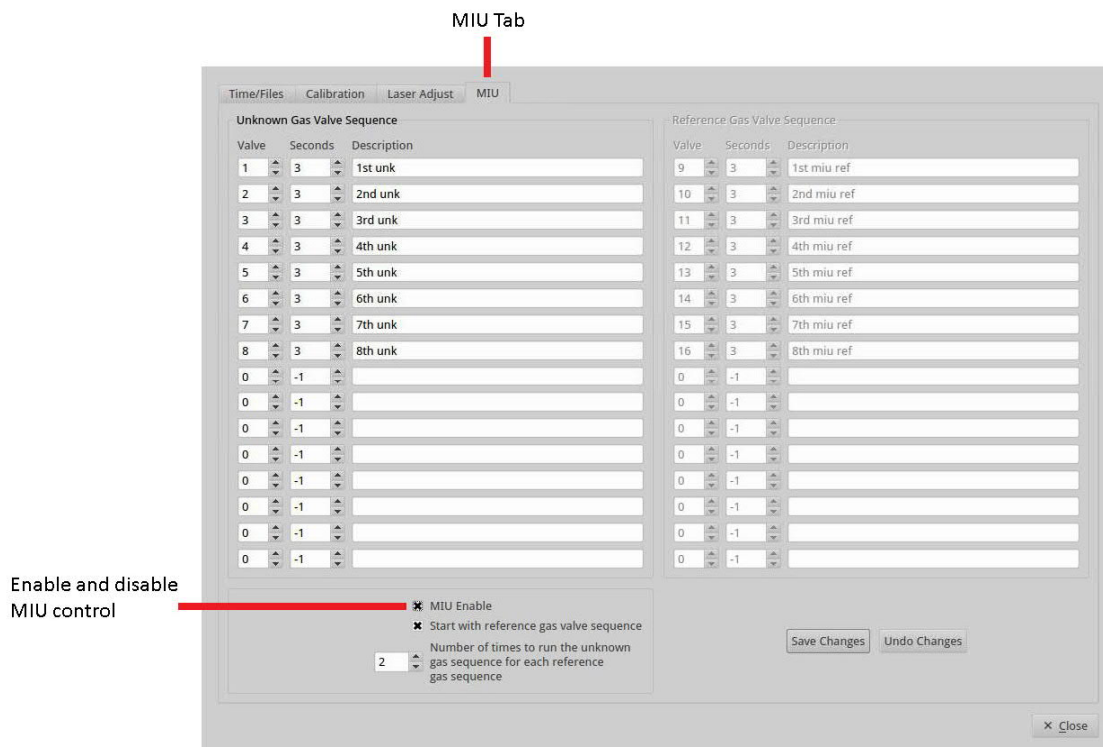

Figure 91: Gas Manifold Control Screen for the MIU, not yet enabled
2. Click on the MIU tab at the top of the *Setup* menu selection bar. (Figure 91)
Figure 91 shows the *Gas Manifold Control* Screen for the MIU not yet enabled.